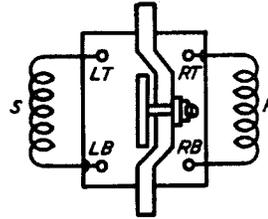

FIG. 1 - WINDING TERMINAL ARRANGEMENT AS VIEWED FROM THE FRONT (CONTACT SIDE)-A, E, F, H, M, R, T, AB, EA AND 236 TYPE RELAYS
2.05 The first letter (L, R, C or Y) locates the winding terminal with respect to the core as shown in Fig. 1. Where no more than two winding terminals are located in the top or bottom spring assembly, the designations L and R are used, L indicating a terminal to the left and R a terminal to the right of the core as viewed from the front of the relay. Where there are more than two winding terminals in one of these spring assemblies, the designations C and Y are also used.